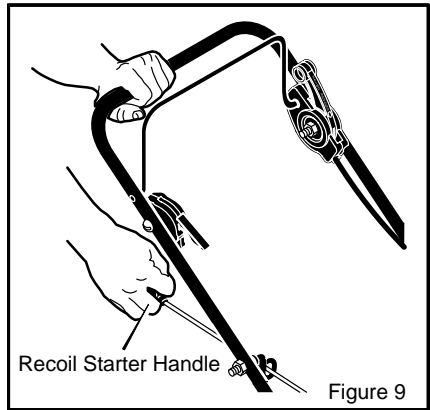

Figure 9
4. Firmly hold the **recoil starter handle** with your right hand. See Figure 9.